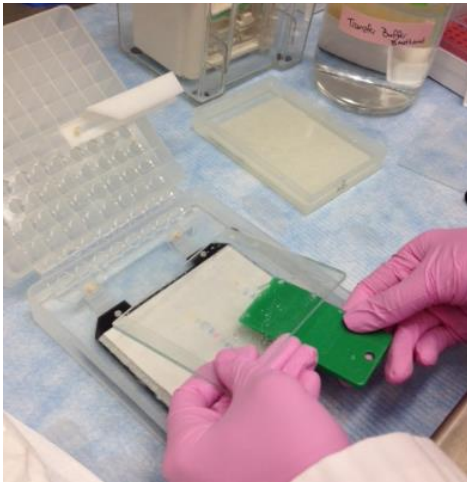
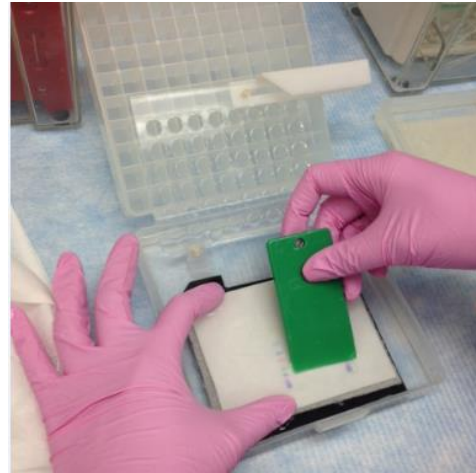

Figure 7c
Figure 7d
5.4.4. Carefully transfer the gel onto the sandwich (ie on top of the whatman paper piece) and smooth out any air pockets by compressing gently with the plate separator. (Figure 7c and Figure 7d).